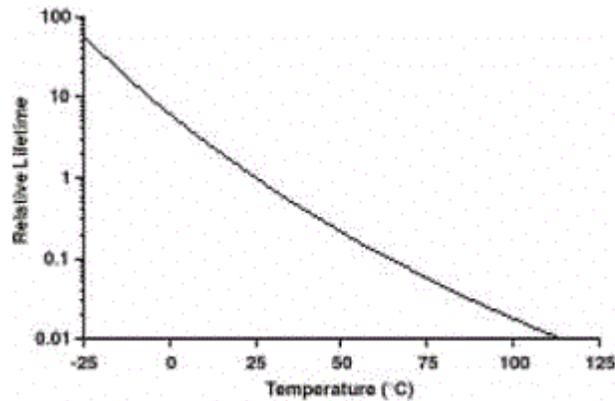

Figure 1. Relative MTBF with Activation Energy of 0.5eV
a. Junction temperature. The microcircuit's maximum junction temperature should not go over 115°C. For example, IBM uses 85°C as its design guideline and Intel uses 90°C as the maximum junction temperature specification for the Pentium processor. Temperature drop between the junction and the ambient is typically 50°C with an ambient of 40°C (113°F) inside an enclosure. Designers should try to design-derate junction temperatures below 90°C while maintaining, at most, a temperature difference of 50°C. Junction temperatures increase as energy builds up. The greater the temperature-difference, the higher the energy flow out of the part. The maximum temperature of a junction is reached when the heat flow out to the ambient is able to keep up with the energy being produced by the junction. Performance risks and speed concerns are associated with increasing junction temperatures. In addition, all failure mechanisms have activation energy associated with accelerated increased temperature. For an activation energy, for the failure mechanism of 0.5eV, typical of punch-through failures for example, every 10°C increase in junction temperature results in the lifetime of a microcircuit cut roughly in half. This is diagramed in figure 1.